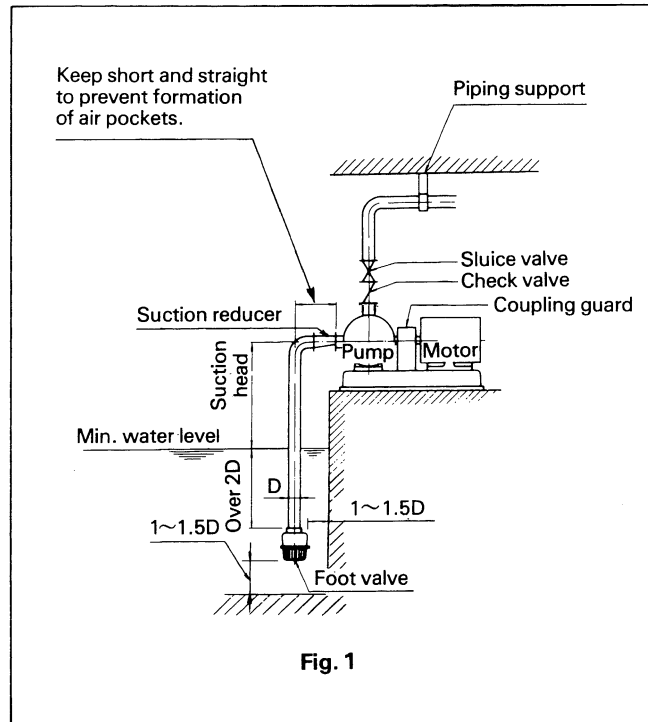

Fig. 1
- (1) Use adequate support for suction and discharge piping to prevent pump and motor from being off-center.
- (2) A check valve must be installed between the pump and the discharge valve in the following cases: when suction piping is long; when actual head is high; when pump is automatic; when water is being pumped to pressure tank; and when two or more pumps are in parallel operation.
- (3) Install an air-release valve in piping to prevent the formation of air pockets due to construction. Note, however, that an air-release valve must not be installed where pressure may drop below atmospheric pressure since the valve may suck in air instead of expelling it.
- (4) To reduce effect of water hammer install such a device as a quick-closing check valve.
- (5) Suction system:
- 1 The end of the suction piping should be submerged to a depth of **at least twice the diameter (D) of the piping**, and should be at a distance between 1 to 1.5 times the diameter of the piping from the bottom of the pit.
- 5 Suction pipe size suction reducer sizes should be as indicated in **Table 1**. Install the suction reducer as shown in **Fig. 1** to prevent the formation of air pockets. The suction reducer is available as an optional accessory.
- (6) For the influx system, we recommend that you install a cutoff valve on the suction piping to facilitate disassembly and inspection.